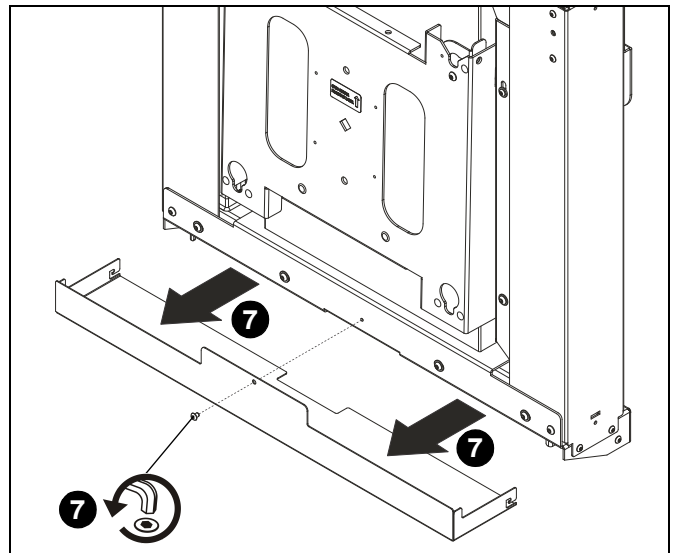

Figure 8
7. Remove screw holding bottom cover to XSD1U assembly (A) and remove bottom cover. (See Figure 8)